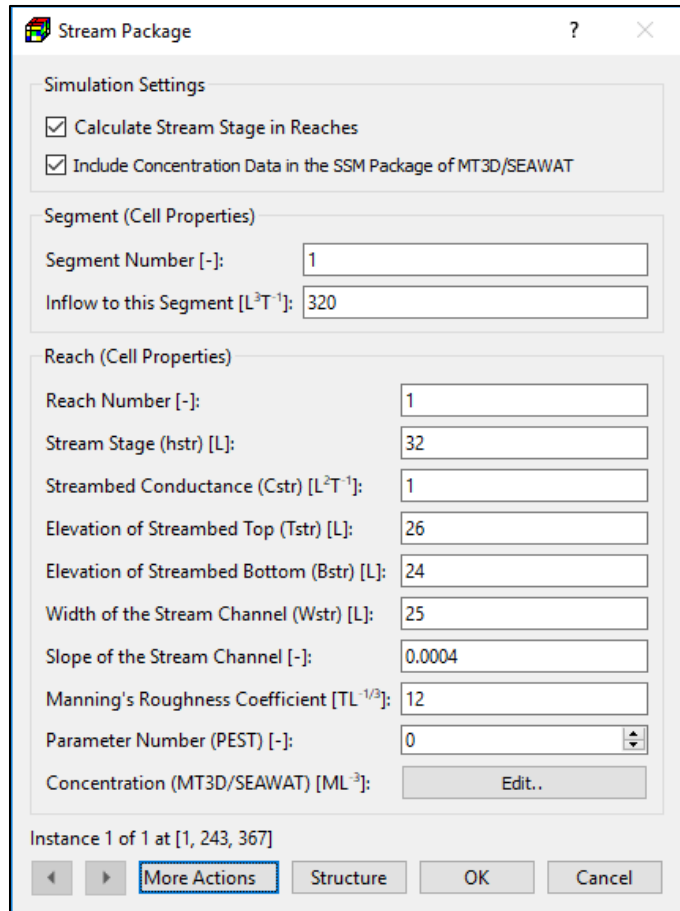

Figure 79. The Stream Package dialog box for specifying cell properties
1. **Cell-by-cell input method:** Figure 79 shows the dialog box for specifying reach properties.